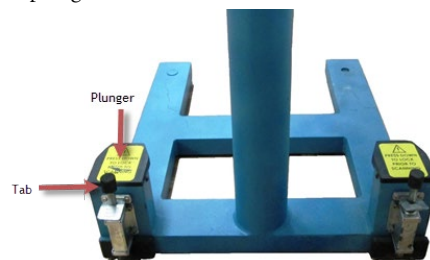

Figure 395: Neonate platform foot brake locations
3. After the patient is properly positioned in the scanner, lock the platform in place by stepping down on plunger on both sides (see Figure 395).